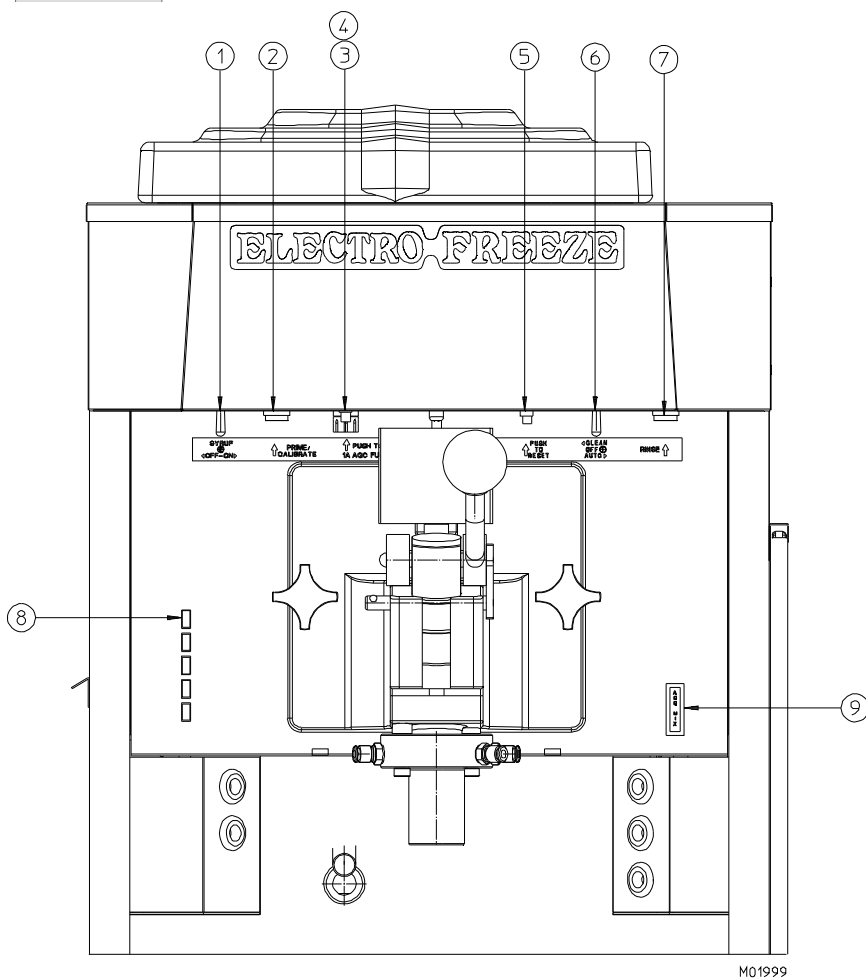

Figure 11-3
3. Place an empty container under the mix chamber. Turn the syrup pump switch to the "ON" position. Select a syrup flavor by pushing the proper button (see figure 11-2) and then press the syrup prime/calibrate button (see figure 11-3, item 2) to purge syrup from the line. Hold the button and allow at least 1-1/2 cups of hot water to flow through the tube and mix chamber. Continue until the water runs clear.